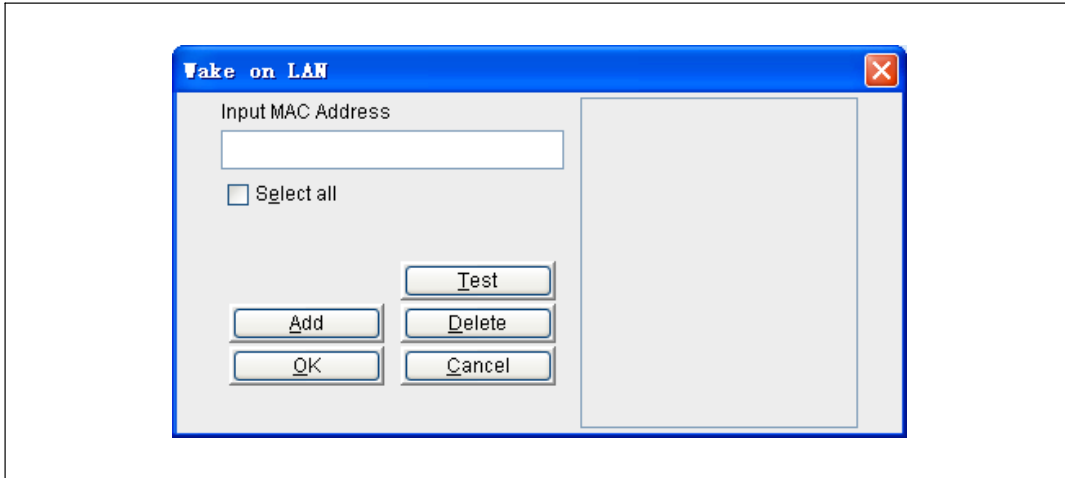

Figure 103. Wake on LAN Window
- 1 Select **Wake Up** from the **UPS** menu to open the Wake on LAN window (see Figure 103).